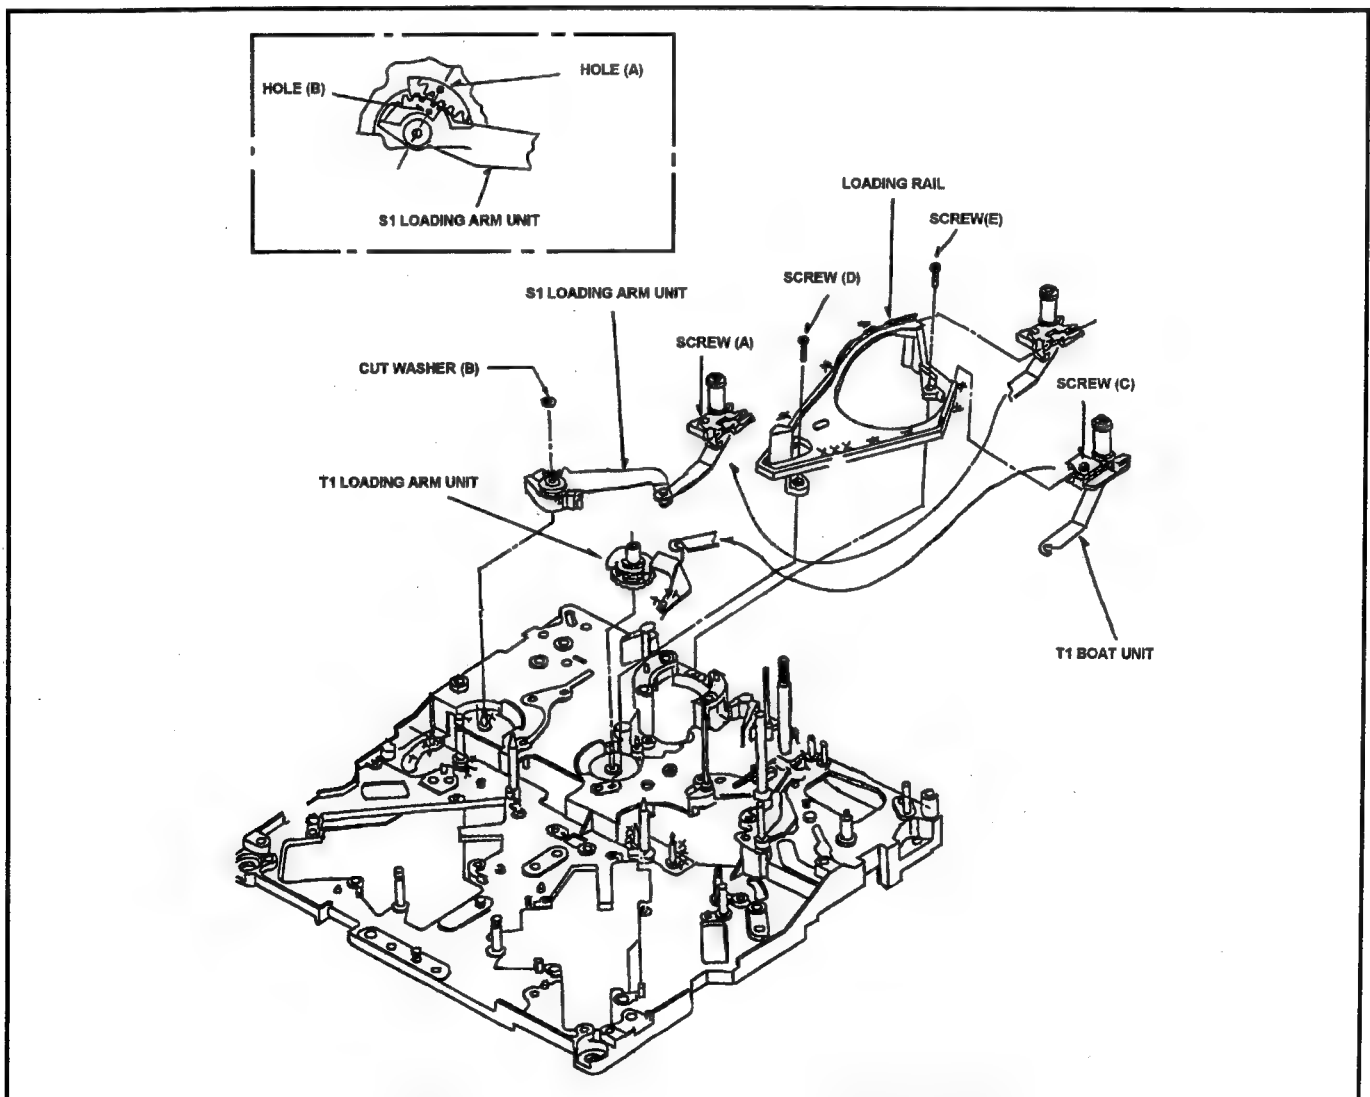

Fig. 8-11-1 Removal of S1 Post Loading Arm Unit
3. Remove the S5 Post Base Unit (Refer to item 8-14).
4. Remove the Tension Arm Unit (Refer to item 8-15).
5. Unscrew the screw (A) and remove the S1 Post from Loading Rail as shown in Figure 8-11-1.
6. Remove the Cut Washer (B) and remove the S1 Loading Arm Unit as shown in Figure 8-11-1.
1. Adjust S1 Post Loading Arm Unit so that the hole (A) should match hole (B) as shown in Figure 8-11-1.
3. Unscrew the screws (C), and remove the T1 Post from Loading Rail as shown in Figure 8-11-1.
4. Remove the T1 Boat Unit from T1 Loading Arm Unit as shown in Figure 8-11-1.
3. Remove the cylinder Unit (Refer to item 8-1).
4. Move the T1 Post to loading direction until the screw (D) can be removed as shown in Figure 8-11-1.
5. Unscrew the 2 screws (A) and (C), and then remove the S1 and T1 Post from Loading Rail as shown in Figure 8-11-1.
6. Unscrew the 2 screws (D) and (E), and then remove the Loading Rail as shown in Figure 8-11-1.
7. Remove the T1 Loading Arm Unit as shown in Figure 8-11-1.